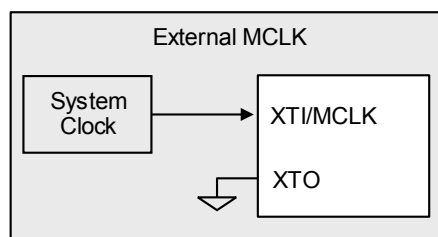

Figure 4-13. System Clocking—External MCLK Mode
- Externally sourced through the XTI/MCLK input pin (see Fig. 4-13)
- PLL reference clock is provided through the XTI/MCLK input pin (see Fig. 4-13), then use internal PLL to convert into MCLK_INT